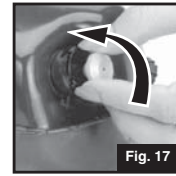
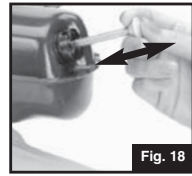

Fig. 17
Fig. 18
- Open PUMP KNOB and pump additional pressure into tank. (Fig. 17 & Fig. 18)
- Abra la PERILLA DE LA BOMBA y bombee presión adicional al tanque. (Fig. 17 & Fig. 18)